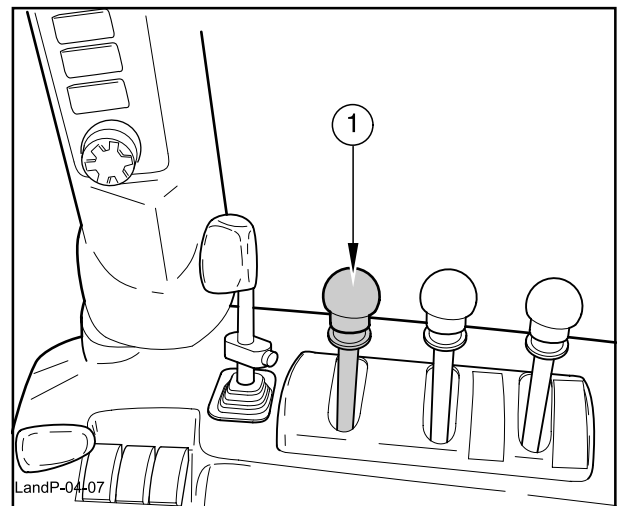

Fig. 4-14
(Fig. 4-14)
- Shift lever 1 (Fig. 4-14) to engage the creeper.